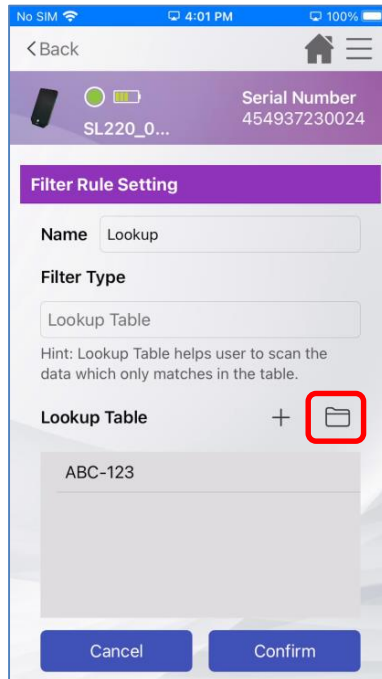

Figure 7.4.3
- User can import .txt file which contain the data to be matched in to Lookup Table by tap on the folder icon (Figure 7.4.3)